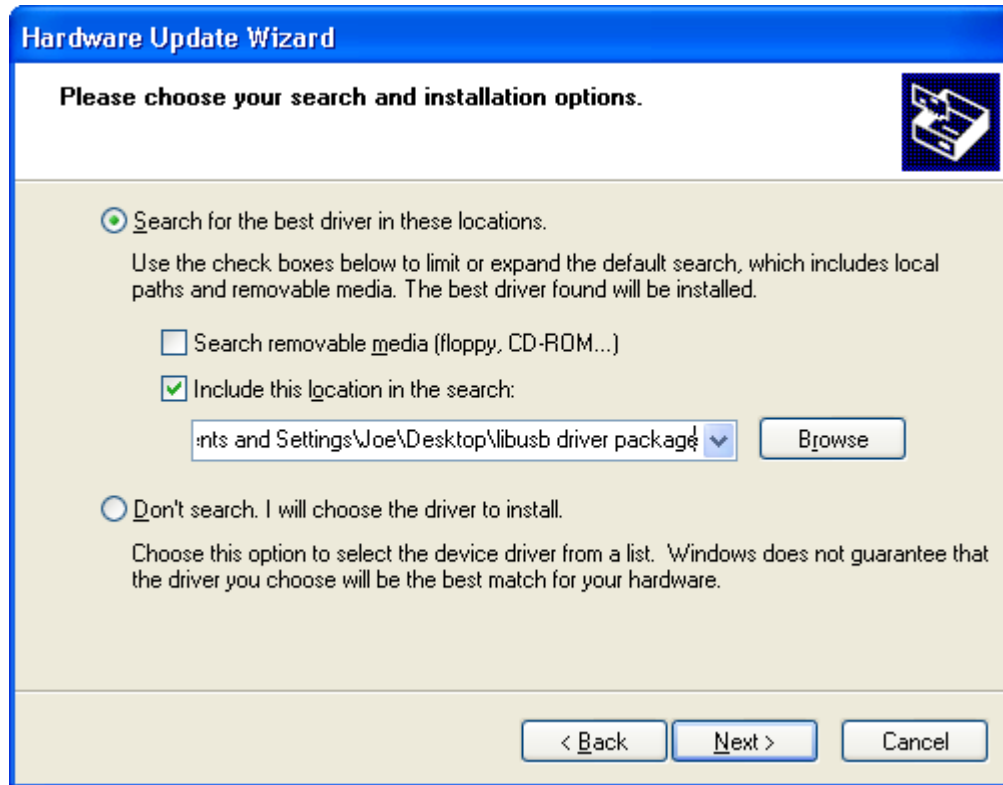

Fig 9: Hardware Update Wizard - Browse to Location of LibUSB
5. Browse to the folder you downloaded the LibUSB driver to and click **Next** (see Fig 9).